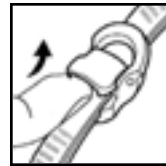

FIGURE 2
1. Open the Cam-Lock adjusters (Figure 2);